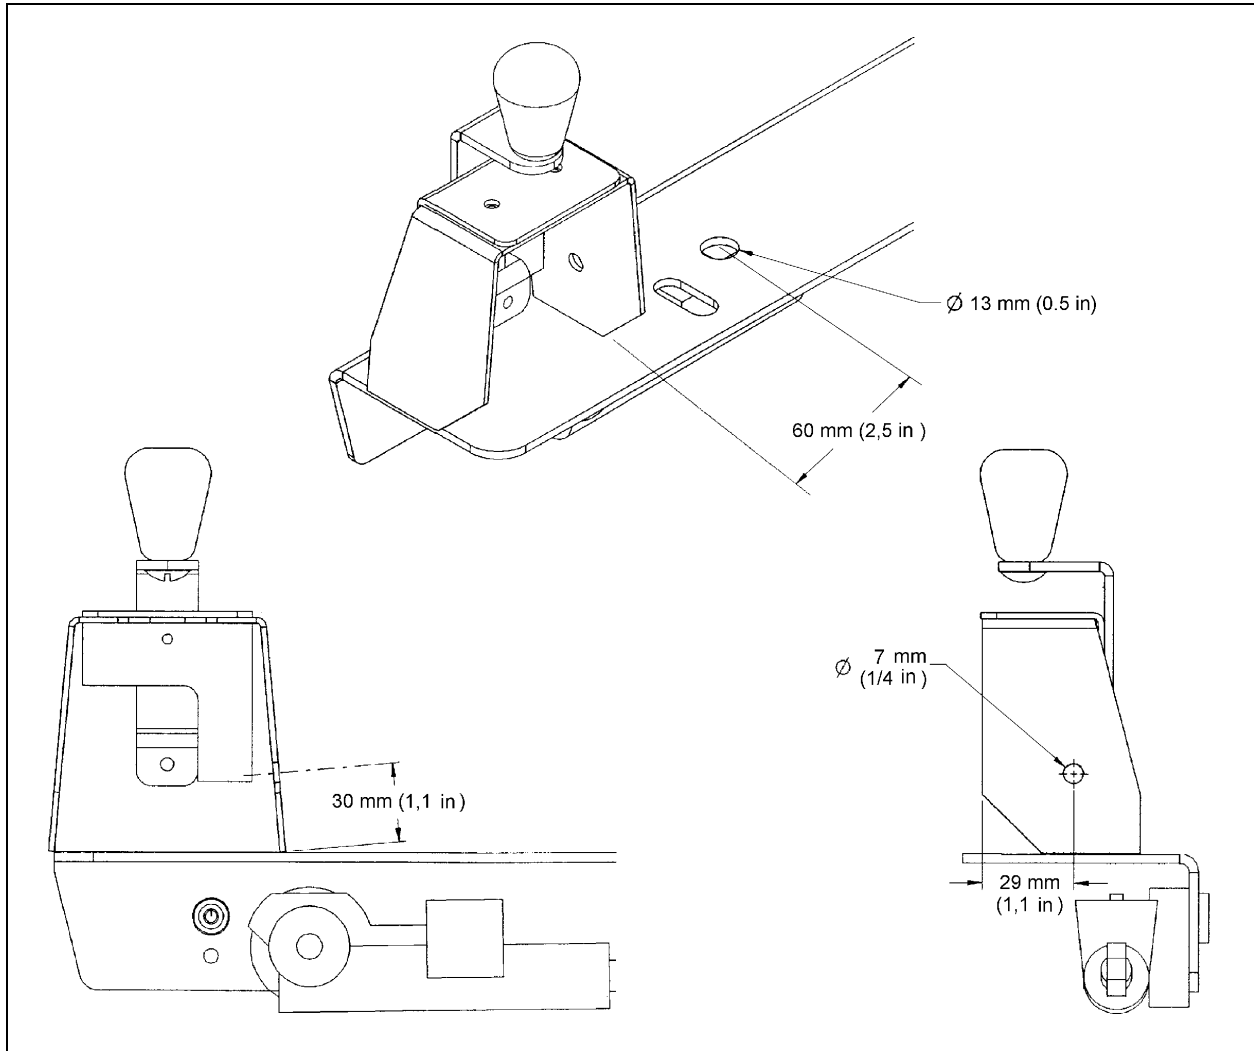

Figure 4: Location of the holes to drill.
- Drill a 13 mm (0.5 in) diameter hole into the lateral metallic structure of the seats, as shown on figure 4. Drill approximately in the middle of the structure, at 60 mm (2.5 in) from the knob support;
- Drill a 7 mm (1/4 in) diameter hole, as shown on figure 4;